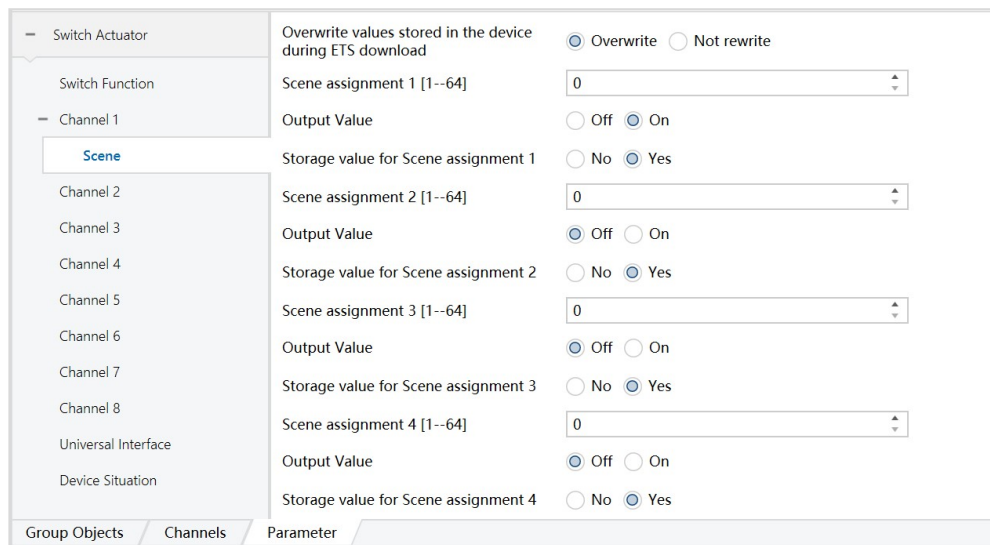

Figure 6.1.4
8-bit scene control	<p>Scene control function, options: Enabled, Disabled, when "Enabled" is selected, the "scene" option appears in the corresponding channel on the left side of the interface, click "scene", and the interface is switched as shown in Figure 6.1.4. In the interface ① parameter "Overwrite values stored in the device during ETS download", options are: Overwrite, Not rewrite; ②parameter "Scene assignment 1—64" indicates the setting of the scene number, and the scene number can be set to 1-64; ③parameter "Output Value" indicates the output value of the channel operation corresponding to the scene number, options: On, Off; ④Parameter "Storage value for Scene assignment X" Options: No, Yes, (for example: Channel 1 and Channel 2 are in the parameter "Scene" Assignment 1[1-64] "Select "1", "Storage value for Scene assignment 1" select "Yes", the communication object takes the group address 3/1/1 as an example, after downloading the data, first execute the module On the manual control operation CH1 and CH2 are On), enter the group address 3/1/1 in the "diagnosis" on the ETS, then select "Learn" in the "Value", select "1" for the scene number, on the bus If it is issued, the scene number "1" is completed to learn the state of the actuators CH1 and CH2 On.)</p>
8-bit scene control	Scene control function, options: Enabled, Disabled, when "Enabled" is selected, the "scene" option appears in the corresponding channel on the left side of the interface, click "scene", the interface is switched as shown in Figure 6.1.4. In the interface ①parameter "Overwrite values stored in the device during ETS download", options: Overwrite, Not rewrite; ② parameter "Scene assignment 1-64; ③parameter "Output Value", options: On, Off; ④ parameter" Storage value for Scene assignment X" Options: No, Yes, (For example: Channel 1 and Channel 2 select "1" in the parameter "Scene assignment 1[1-64]" , select "Yes" for "Storage value for Scene assignment 1" " , the communication object takes the group address 3/1/1 as an example. After downloading the data, manually control CH1 and CH2 on the execution module to be On (on), and enter the group at the "diagnosis" position on the ETS. Address 3/1/1, then select "Learn" in "Value", select "1" for the scene number, and send it on the bus, then the scene number "1" is completed to learn the state of the actuators CH1 and CH2 On.)
8-bit scene control	Scene control function, options: Enabled, Disabled, when "Enabled" is selected, the "scene" option appears in the corresponding channel on the left side of the interface, click "scene", the interface is switched as shown in Figure 6.1.4. In the interface ①parameter "Overwrite values stored in the device during ETS download", options: Overwrite, Not rewrite; ② parameter "Scene assignment 1—64"; ③parameter "Output Value", options: On, Off; ④ parameter "Storage value for Scene assignment X", options: No, Yes, (for example: Channel 1 and Channel 2 are selected in parameter "Scene assignment 1[1-64]" "1", "Storage value for Scene assignment 1" When "Yes", the communication object takes the group address 3/1/1 as an example. After downloading the data, manually control CH1 and CH2 on the